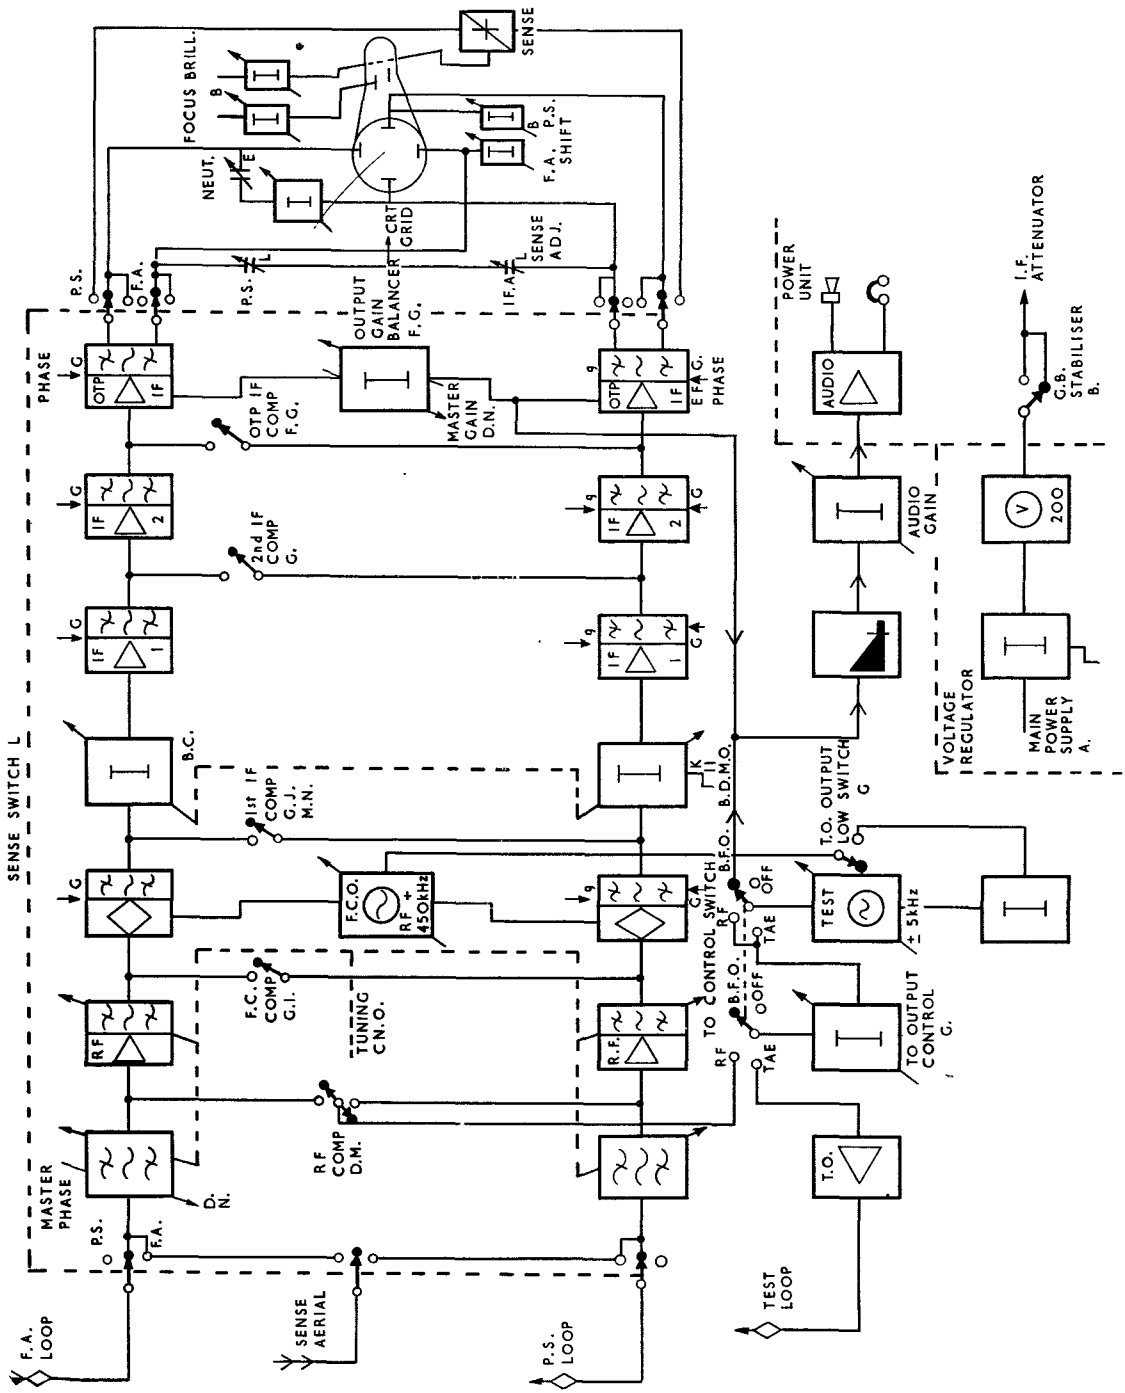

FIG. 4. HF DF SYSTEM FH4 - ALIGNMENT CHECK - BLOCK DIAGRAM
8. **Alignment Check.** This check is to be carried out at least every four hours or on any occasion when the operator check does not produce the specified result. The equipment must be switched on for a minimum period of six hours prior to checks or use. Fig. 4 shows the units of the receiver which are used and adjusted during this process.